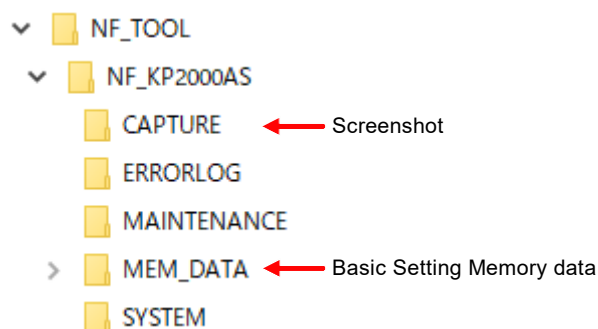

Figure 4-4 USB Memory Folder Structure
The root folder of the USB memory should have folders as shown in *Figure 4-4*. Otherwise, these folders are created automatically when the USB memory is connected to this product.
- The ERRORLOG, MAINTENANCE, and SYSTEM folders in *Figure 4-4* are not used by the users. Do not delete these folders and files in them, as they are used for firmware updating of this product and other purposes.